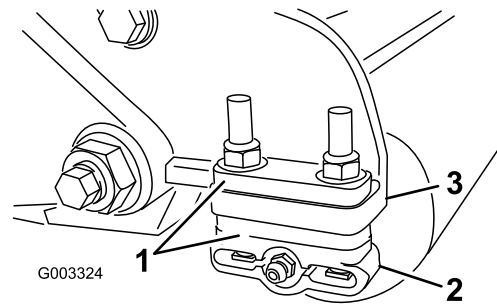

Figure 11
1. Adjust the rear roller brackets (Figure 11) to the desired height of cut range by positioning the required amount of spacers below the side plate mounting flange (Figure 11) per the HOC Chart.